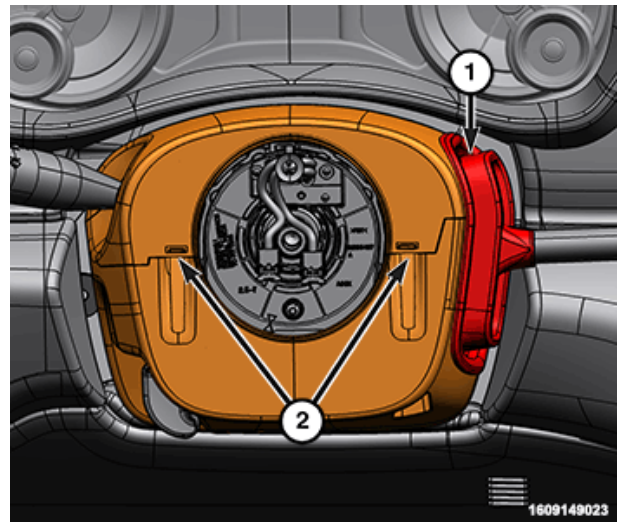

Figure 6 – Steering Column Shroud
18. If equipped, release the shifter boot (1) from the steering column shroud (Figure 6).
19. Disengage the upper steering column shroud tabs (2) from the lower steering column shroud (Figure 6).
7. Install the upper steering column shroud to the lower steering column shroud (Figure 6).
8. If equipped, install the shifter boot (1) to the steering column shroud (Figure 6).